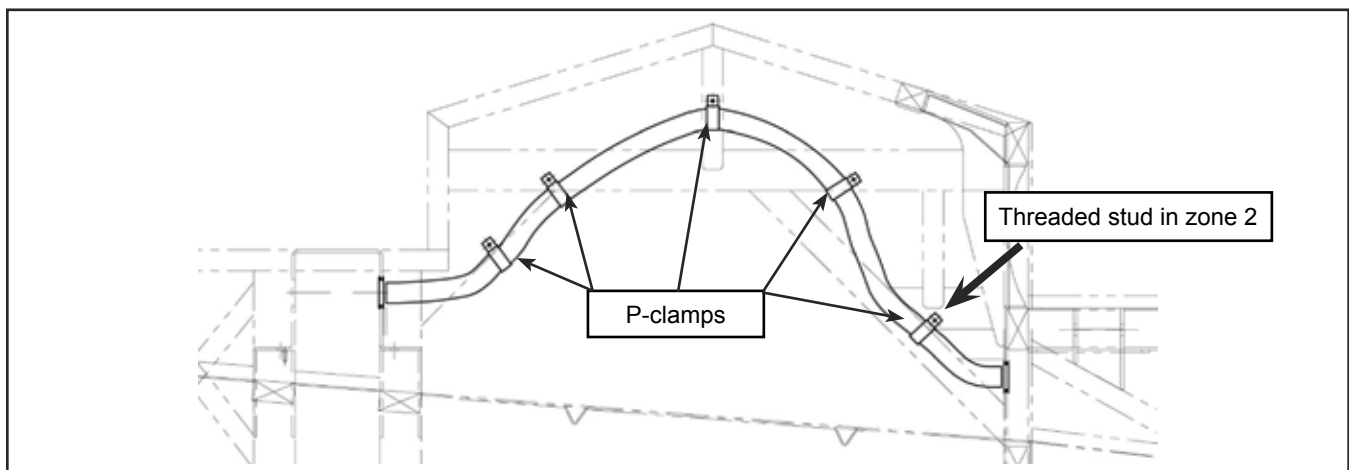

Figure 3 - Location of the P-Clamp to Remove and Threaded Stud in Zone 2
- 1.9. Remove the threaded stud installed to maintain the pneumatic hoses located in zone 2 to be repaired (left and right side). See Figure 3.
1.19. Weld the threaded stud N20610 on the new reinforcement plate N60850. See Figure 3.
1.28. Install the pneumatic hoses and electrical cable in the wheelhouse with the retained p-clamp and hardware. See Figure 3.